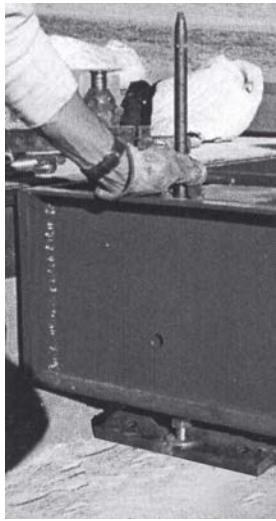

Figure 4-10. Seating Anchor Bolts on Baseplate
4. Install one washer and one nut on each anchor bolt. Place a driver pipe on top of the anchor bolt and use the long punch to seat anchor bolts against baseplate (Figure 4-10 on page 13).